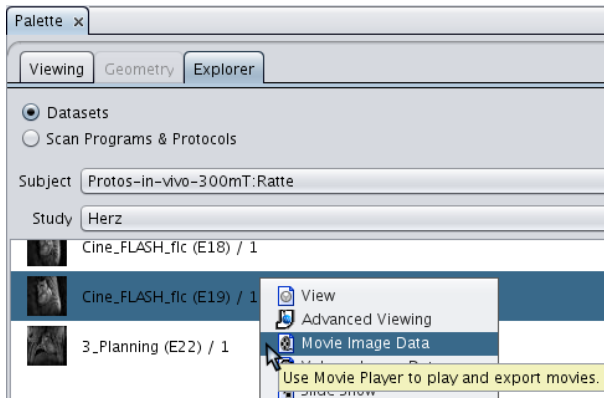

Figure 1.125: Start Movie Player From the Palette
2. Right-click the desired image series and select **Movie Image Data** (see Figure 1.125 [▶ 148]).